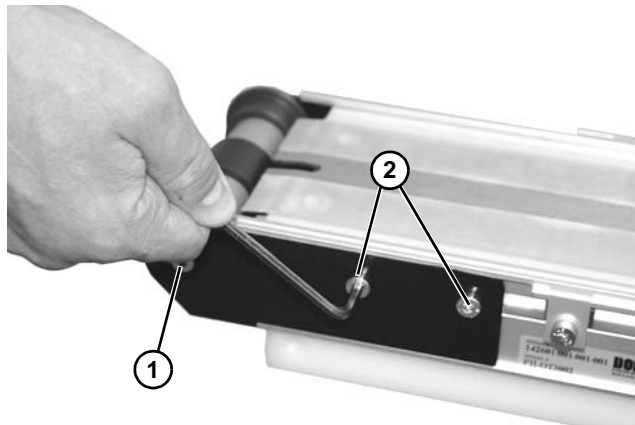

Figure 46
1. On one side of conveyor, remove one (1) fastening screw (**Figure 46, item 1**).
2. On the same side of conveyor, remove two (2) fastening screws (**Figure 46, item 2**).